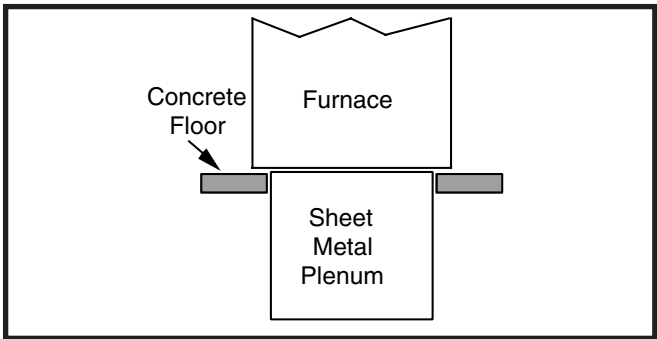

Figure 9. Furnace on a Concrete Slab
- 2.Position the plenum and the furnace as shown in Figure 9.